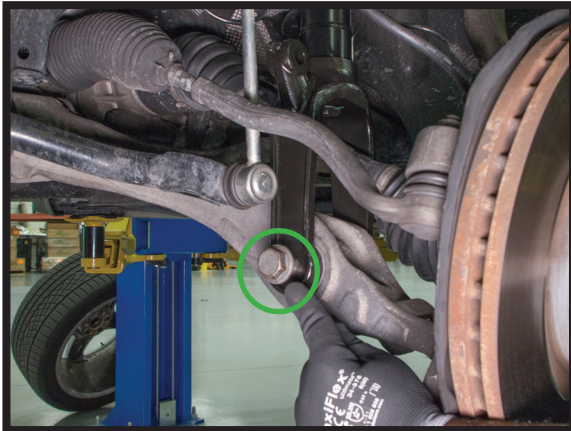

FIGURE 9
2. INSTALL THE LOWER SHOCK MOUNT BOLT AND NUT, TIGHTEN TO MANUFACTURE'S SPECIFICATION. (FIGURES 9, 10)